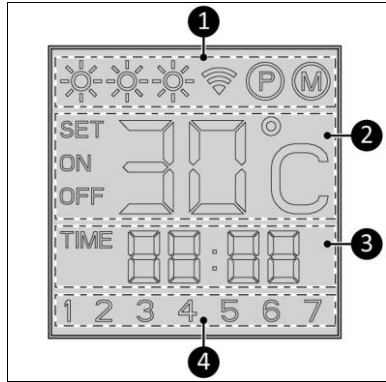

Figure 5
Status indication (Figure 5, pos. 1):
Temperature indication (Figure 5, pos. 2):
Time indication (Figure 5, pos. 3):
Day indication (Figure 5, pos. 4):